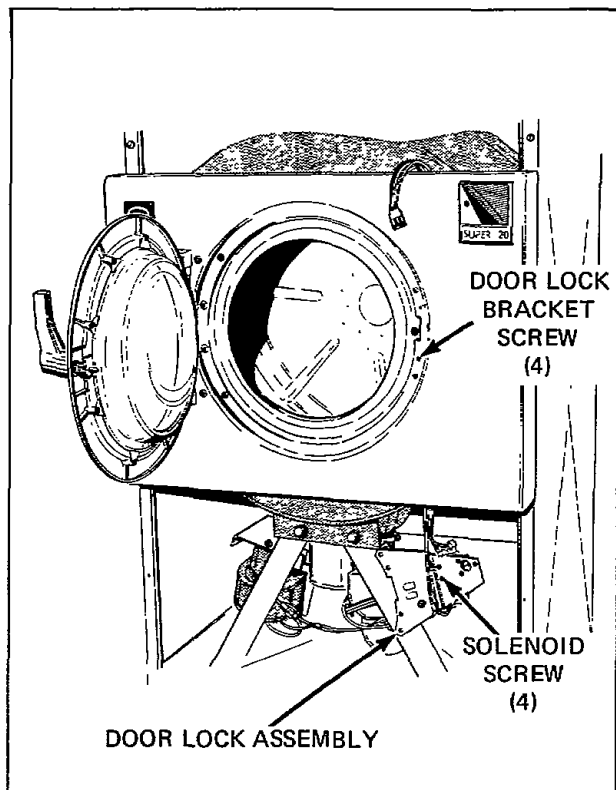

Figure 17
- e. Hold wire harness, open loading door and remove four screws holding door lock assembly bracket to front panel, *Figure 17*.
- f. Lower complete assembly (by use of wire harness) and remove through air intake grille opening, *Figure 17*.
- h. Remove four screws holding solenoid to bracket, *Figure 17*.